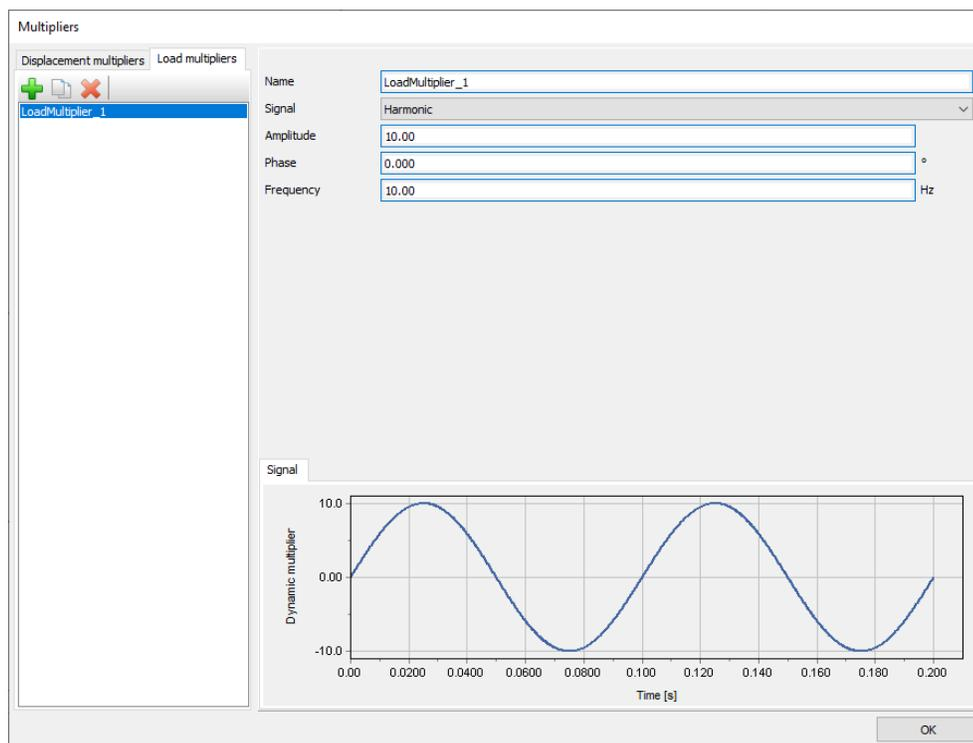

Figure 119: Definition of a Harmonic multiplier
5. Define a **Harmonic** signal with an **Amplitude** of 10, a **Frequency** of 10 Hz and a **Phase** of 0° as shown in Figure 119 (on page 148).